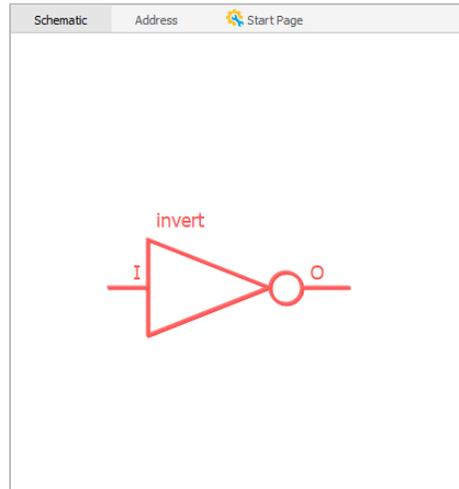

Figure 2.27. Schematic View Shows the Invert Module
1. From the IP Catalog, select the **invert** module. Double-click the invert module or drag and drop invert module to the Schematic view. The schematic block for the invert module in red appears in the Schematic view (Figure 2.27).